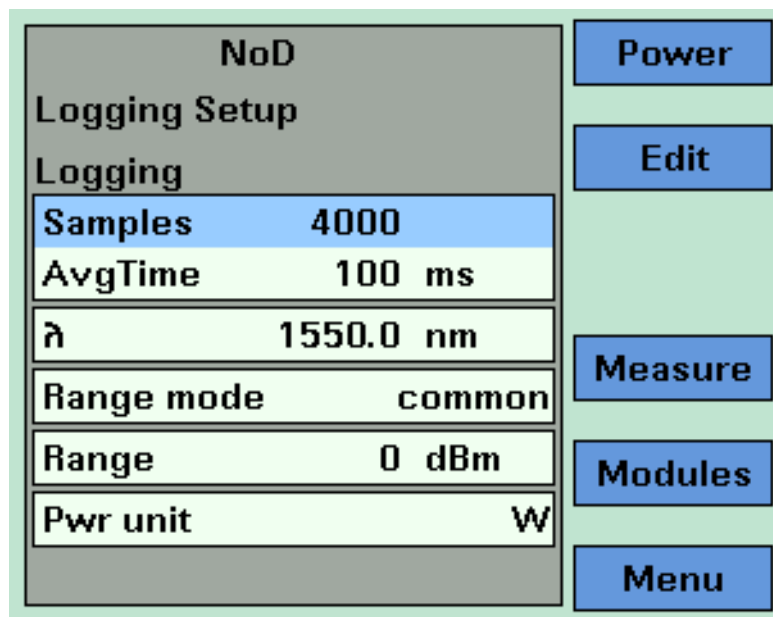
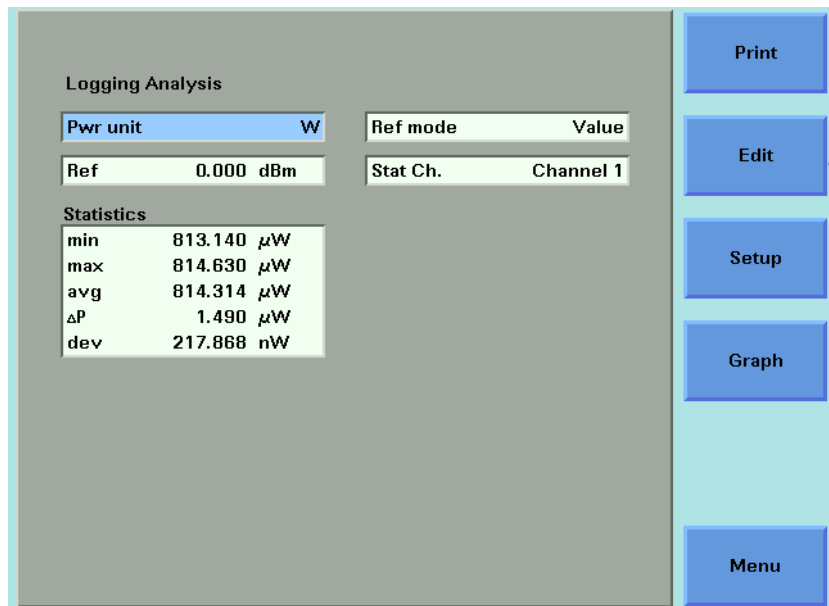

Figure 149 The Agilent 8163B Logging Parameter Setup Screen
Figure 152 The Agilent 8164A/B Logging Analysis Screen
If you are using the Agilent 8163A/B Lightwave Multimeter, press [Parameter] to access the Logging Parameter Setup Screen, as shown in Figure 149 . To return to the Logging Modules Setup Screen, press [Modules].
- 2 Press [Analysis]. The Logging Analysis screen appears as shown in Figure 152 for the Agilent 8164A/B and Figure 149 for the Agilent 8163B. \